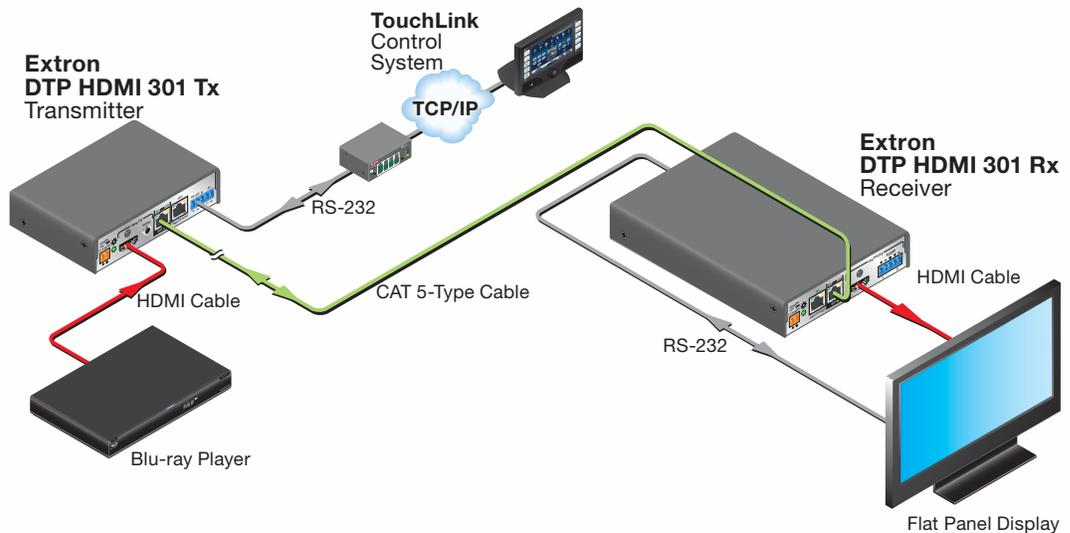

Figure 1. Typical Transmitter and Receiver Application
The Extron DTP HDMI 301 Tx/Rx transmitter and receiver pair (see figure 1) extends the usable distance of HDCP-compliant HDMI digital video (with embedded audio), optional analog audio, and bidirectional RS-232 and infrared (IR) control signals over one or two pair Category (CAT) 5e, CAT 6, and CAT 6a unshielded twisted pair (UTP) or shielded twisted pair (STP) cables. The DTP HDMI 301 can also extend DVI video with applicable adapters. The video, audio, and control signals can be transmitted up to 330 feet (100 m).